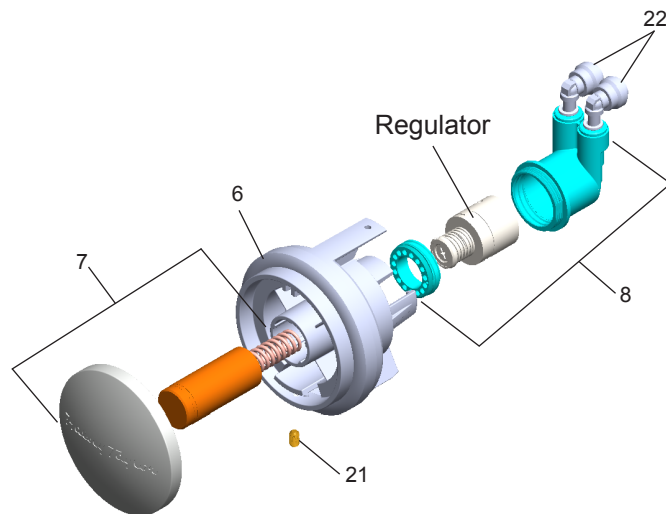

Figure 8 - Push Button Assembly
14. **Check stream height from bubbler.** Stream height is factory set for 35 PSI supply. If supply pressure varies greatly from this, remove push button (Item 7 - Fig. 8) and adjust the screw on the regulator (Item 8 - Fig. 8). To remove push button, remove setscrew from bottom of sleeve (Item 21). Insert a small punch in screw hole and push up while grasping the push button and pull forward removing the push button. Clock wise adjustment will raise stream height and counterclockwise movement will lower stream height. For best adjustment stream should hit basin approximately 6-1/2" from the bubbler. Reassemble the push button by pushing in on button until the push button catches in the sleeve. Reinstall the setscrew (Item 21) in the sleeve (Item 6).